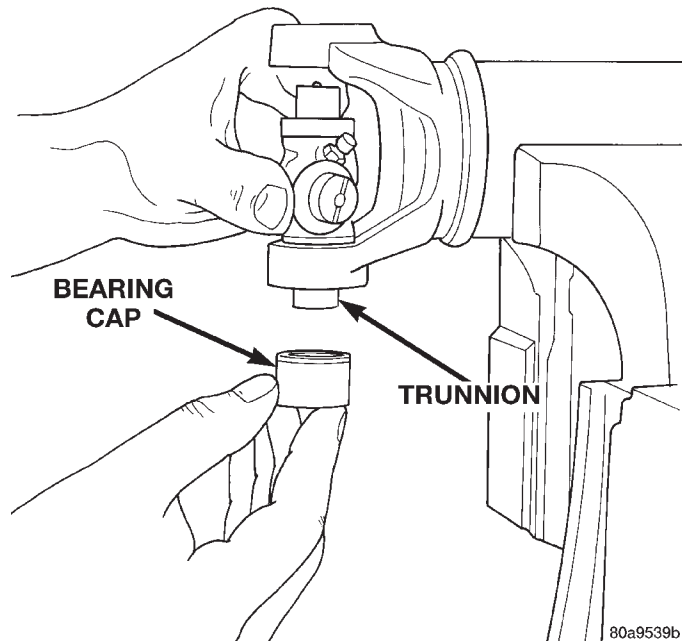

Fig. 21 Install Bearing On Trunnion
(3) Place a bearing cap over the trunnion and align the cap with the yoke bore (Fig. 21). Keep the needle bearings upright in the bearing assembly. A needle bearing lying at the bottom of the cap will prevent proper assembly.
(4) Press the bearing cap into the yoke bore enough to install a snap ring.
(5) Install a snap ring.
(6) Repeat Step 3 and Step 4 to install the opposite bearing cap. If the joint is stiff or binding, strike the yoke with a soft hammer to seat the needle bearings.
(7) Add grease to lube fitting, if equipped.
(8) Install the propeller shaft.